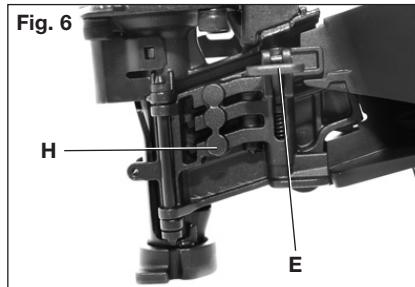

Fig. 6
9. Close the canister door (I) completely.
10. Close the nail guide door (H) making sure the door latch (E) is completely engaged as shown in Fig. 6.